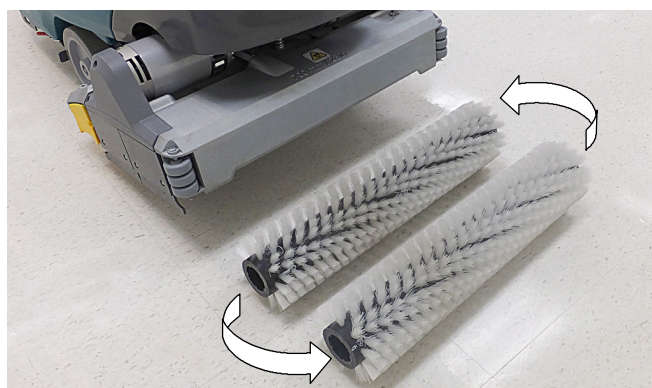

FIG. 100
2. Cylindrical brushes - Rotate brushes from front to rear (Figure 100). Replace brushes when they no longer clean effectively.